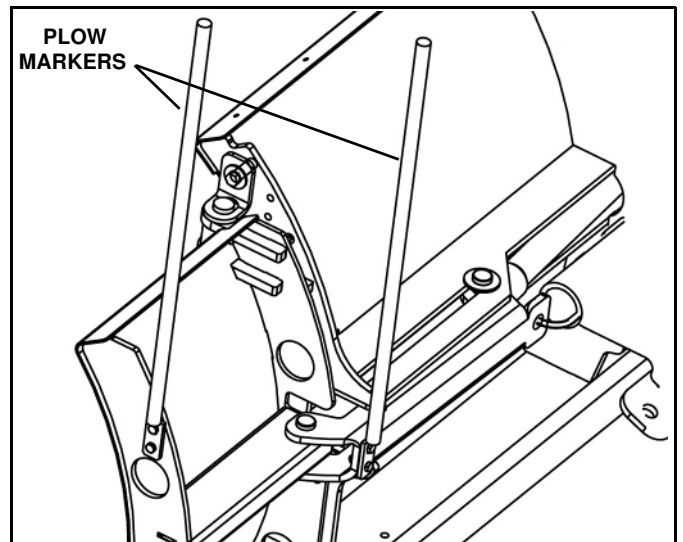

Figure 2-7
7. Optional Accessory: Attach a plow marker to each wing and wing link as shown and secure using 5/16 x 1" cap screws and locknuts. (See Figure 2-7)